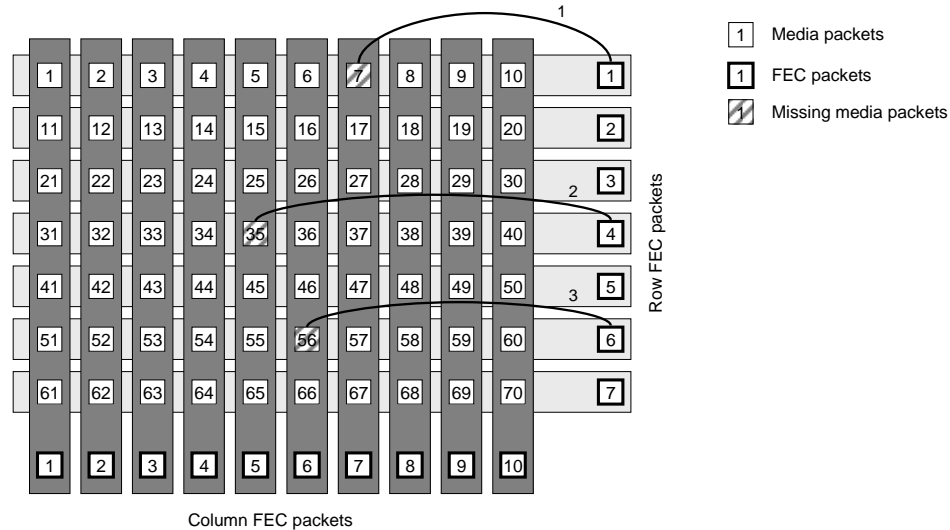

Figure 36. Illustration of two-dimensional FEC, where packet 7, 35 and 56 are lost and corrected.
The generation of FEC packets is based on the use of a matrix. The matrix size is defined by the number of columns (L) and the number of rows (D). The FEC packets are calculated as an XOR operation over the packets in a column and the packets in a row. Figure 36 shows an example of the FEC scheme. Three packets are lost and corrected.